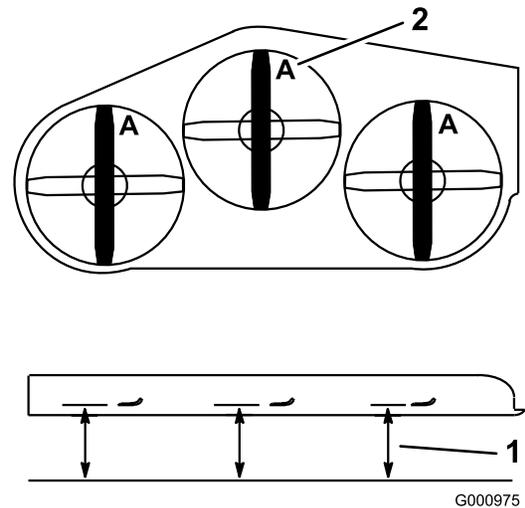

Figure 88
4. Measure from a level surface to the cutting edge, position A, of the blades (Figure 88).